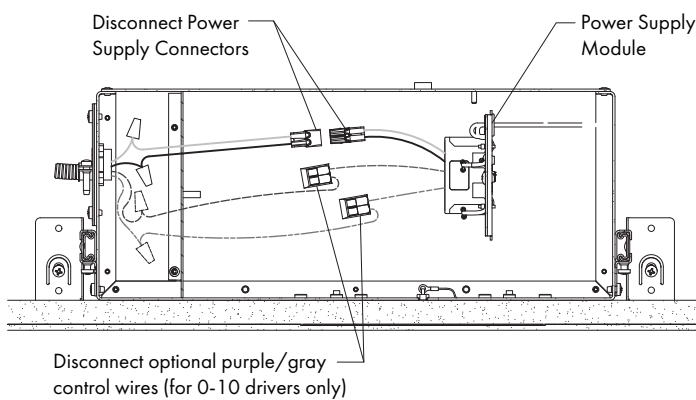

FIG 14.2 Remove Power Supply Module & disconnect wires
STEP 3 Pull Power Supply Module away from threaded stud and pull wires & Power Connectors out of the Junction Box - **FIG 14.2**.
STEP 4 Disconnect Power Supply Connectors. For models with 0-10 drivers, also disconnect purple & gray wires - **FIG 14.2**.